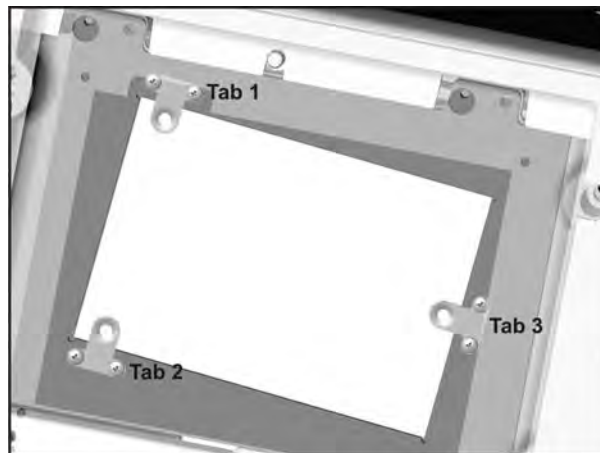

Figure 5-24 Fold Mirror Tabs
2. Remove one, 2.5mm screw from each of the three tabs. **(Figure 5-24)**